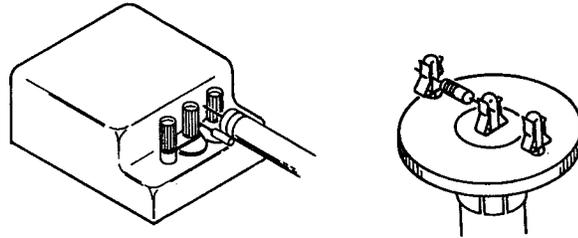

Figure 5-4. Connecting to Test Components
- b. Connect 4815A to precision components as shown in Figure 5-4, checking OHMS meter reading against readings below. MIN NOM and MAX values are derived from full scale reading + correction  $\pm$  tolerance, where tolerance is from the formula  $\pm (\frac{f}{30 \text{ MHz}} + \frac{Z}{25K})\% \pm 4\%$  of F. S. Use frequency counter to set test frequency or change figures in MIN and MAX columns to indicate an additional  $\pm 2\%$  from nominal.